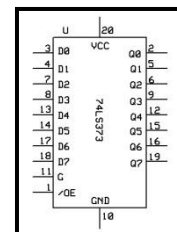

Figure 1: 74LS373 pin diagram [1]
It consists of an eight latches with three state outputs. It comprises of eight input data lines (D0-D7) and eight output lines (O0-O7). The two control pins are Output Enable (OE) and Latch Enable (LE/G). The remaining two pins are VCC and GND. The figure 1 shows the pin diagram of 74LS373. When the LE/G pin is high the latch data changes asynchronously. When the LE pin is pulled low, the data is latched so that the data appears on the output pins. When the OE pin is low, input data appears on the output is in high impedance state which means that there will not be any change in output even by changing the input.